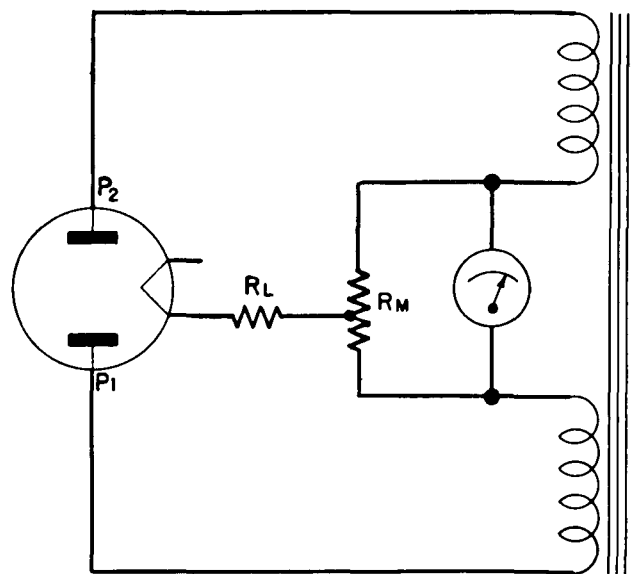

Figure 2-1. Rectifier Diagram
(See Figures 2-1 and 2-2)
a. Examine first the simple full-wave rectifier circuit shown in Figure 2-1. The two power transformer secondary windings have their inner ends connected to a direct-current milliammeter. Across the milliammeter is a center-tapped resistor R_M . The load is shown as a resistance R_L , connected between the center tap and the rectifier filament as in any full-wave rectifier circuit.